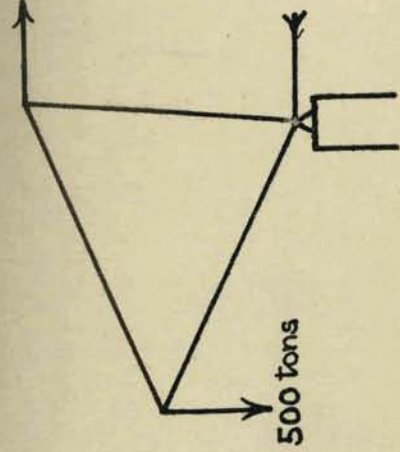

FIG. 11
11. Find the stresses in the members of the bridge structure given in Fig. 11.